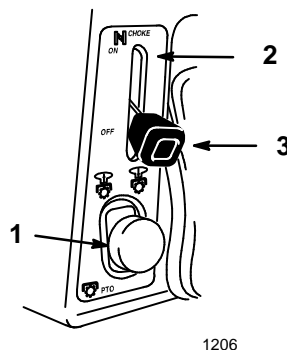

Figure 3
3. Push the PTO (power take off) to “OFF” (Fig. 3).
4. Move the choke lever to “ON” (Fig. 3).